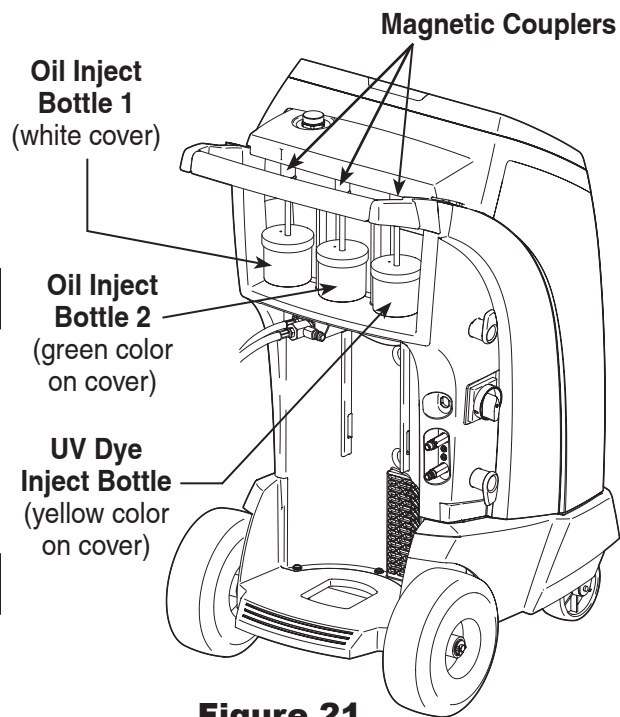

Figure 21
1. Remove the dye inject and oil inject bottles from their scales. See Figure 21.